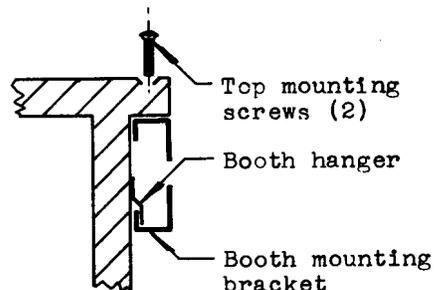
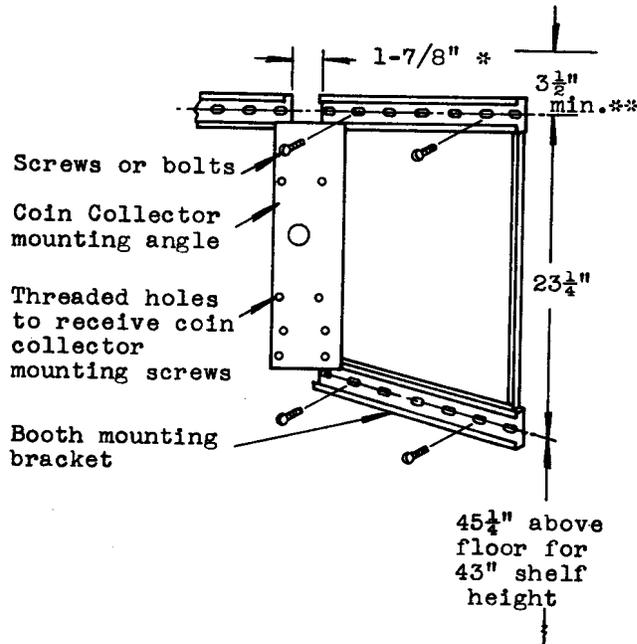

Fig. 2
Fig. 3
4.01 Remove the two screws from the top of shelf to free mounting bracket. (See Fig. 2) Place mounting bracket against wall with the bottom row of mounting slots centered 45-1/4 inches from the floor and mark locations for fasteners. (See Fig. 3)
4.03 Hang shelf on the mounting bracket making sure that top and bottom shelf hangers (2) engage the flanges of the mounting bracket. (See Fig. 2)
4.04 Secure the shelf to mounting bracket by replacing the two top mounting screws which were removed in Paragraph 4.01. (See Fig. 2)